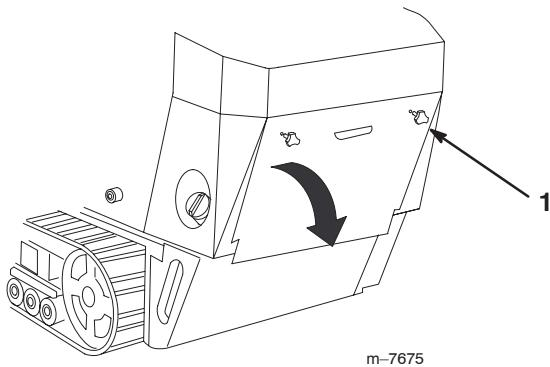

Figure 18
1. Unscrew the 2 hand knobs securing the rear access cover to the machine (Fig. 18).
2. Tilt the rear access cover down and remove to access the internal components (Fig. 18).
2. Push the access cover forward, lining up the hand knob screws with the threaded holes in the machine (Fig. 18).
3. Screw the hand knobs tight to secure the rear access cover in place (Fig. 18).